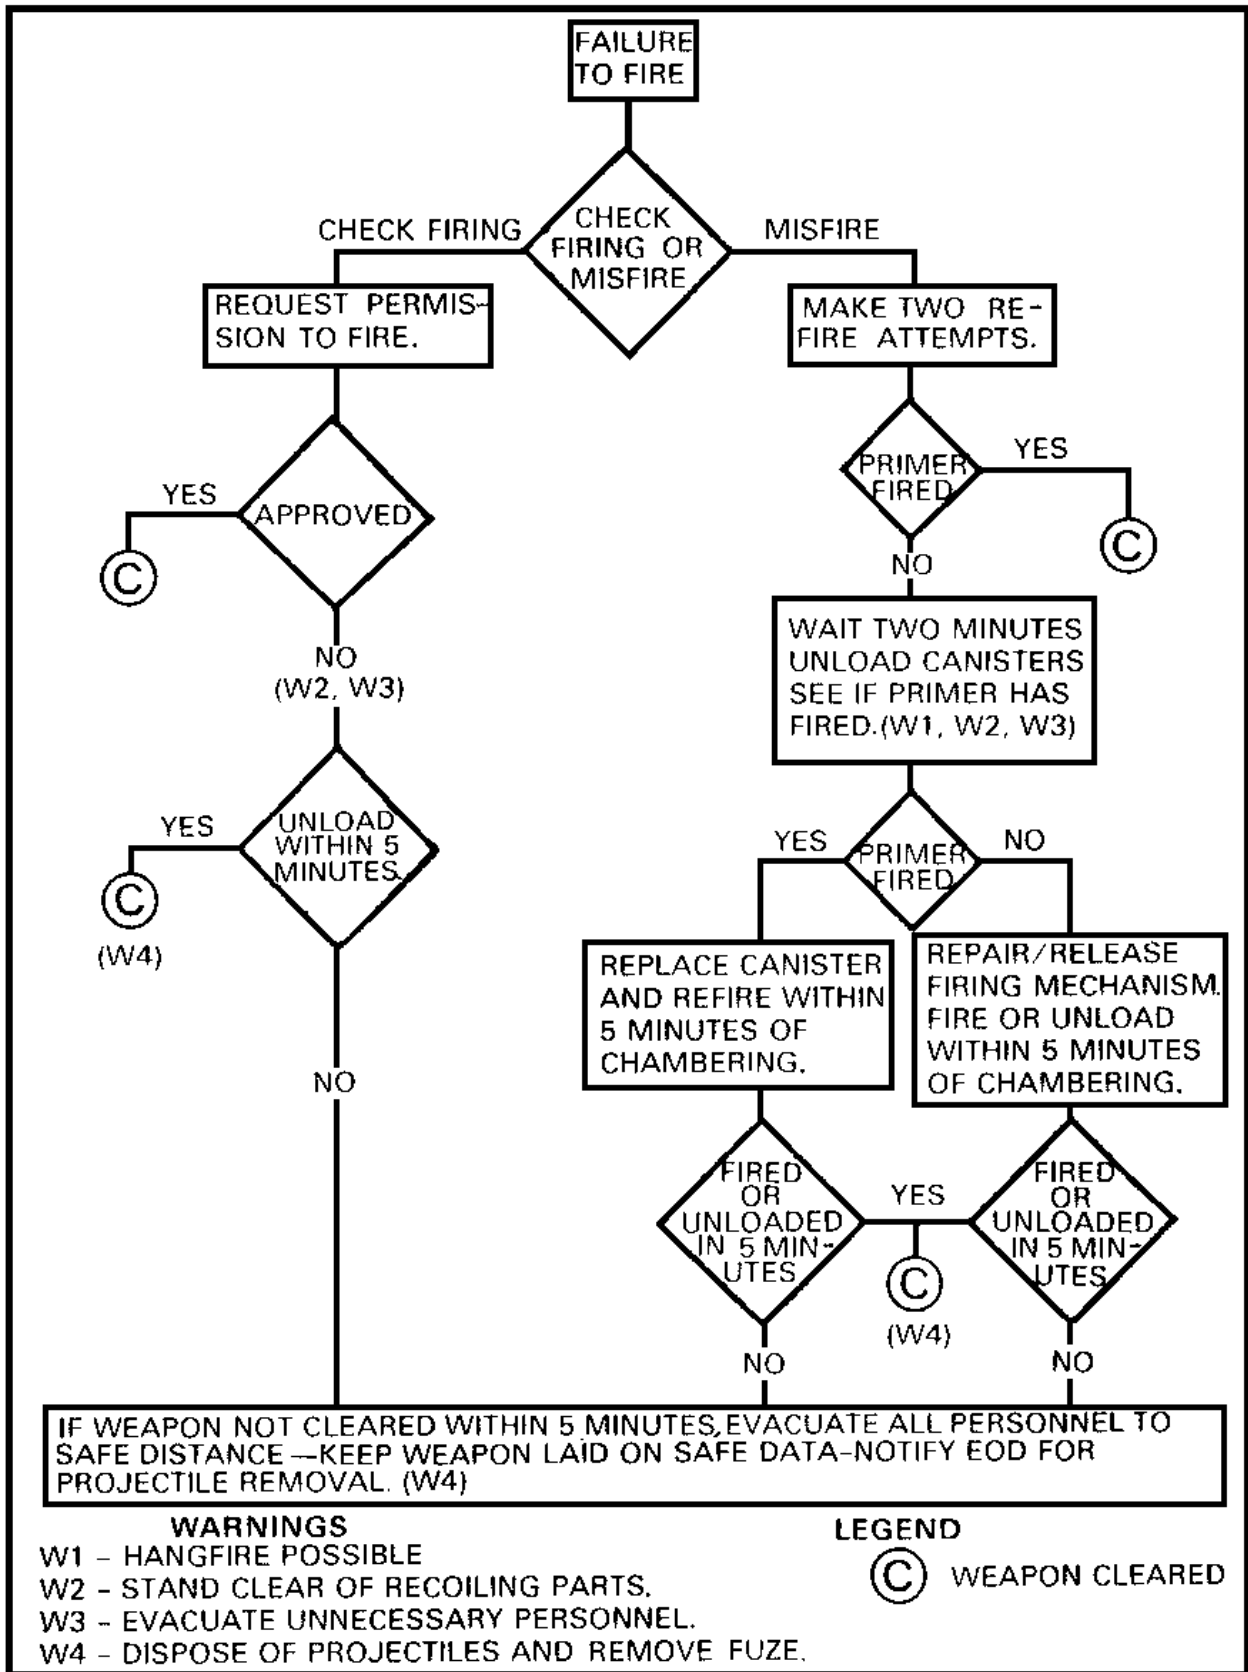

Figure 6. Misfire procedures for weapons firing semifixed ammunition--hot tube.
(2) Procedures after failure to fire--hot tube (Figure 6). After the howitzer fails to fire, actuate the firing mechanism two more times in an attempt to fire the weapon. If the weapon still fails to fire, the chief of section reports to the executive officer MISFIRE NUMBER (so-and-so). The chief of section waits 2 minutes from the last attempt to fire before he opens the breech, removes the cartridge case, and inspects to see if the primer is dented. If the primer is not dented, the firing mechanism should be repaired. If the primer is dented, he replaces the canister with a new one and fires the weapon. The above procedures must be done within 5 minutes after loading. If the weapon cannot be fired or unloaded within 5 minutes, follow these procedures: